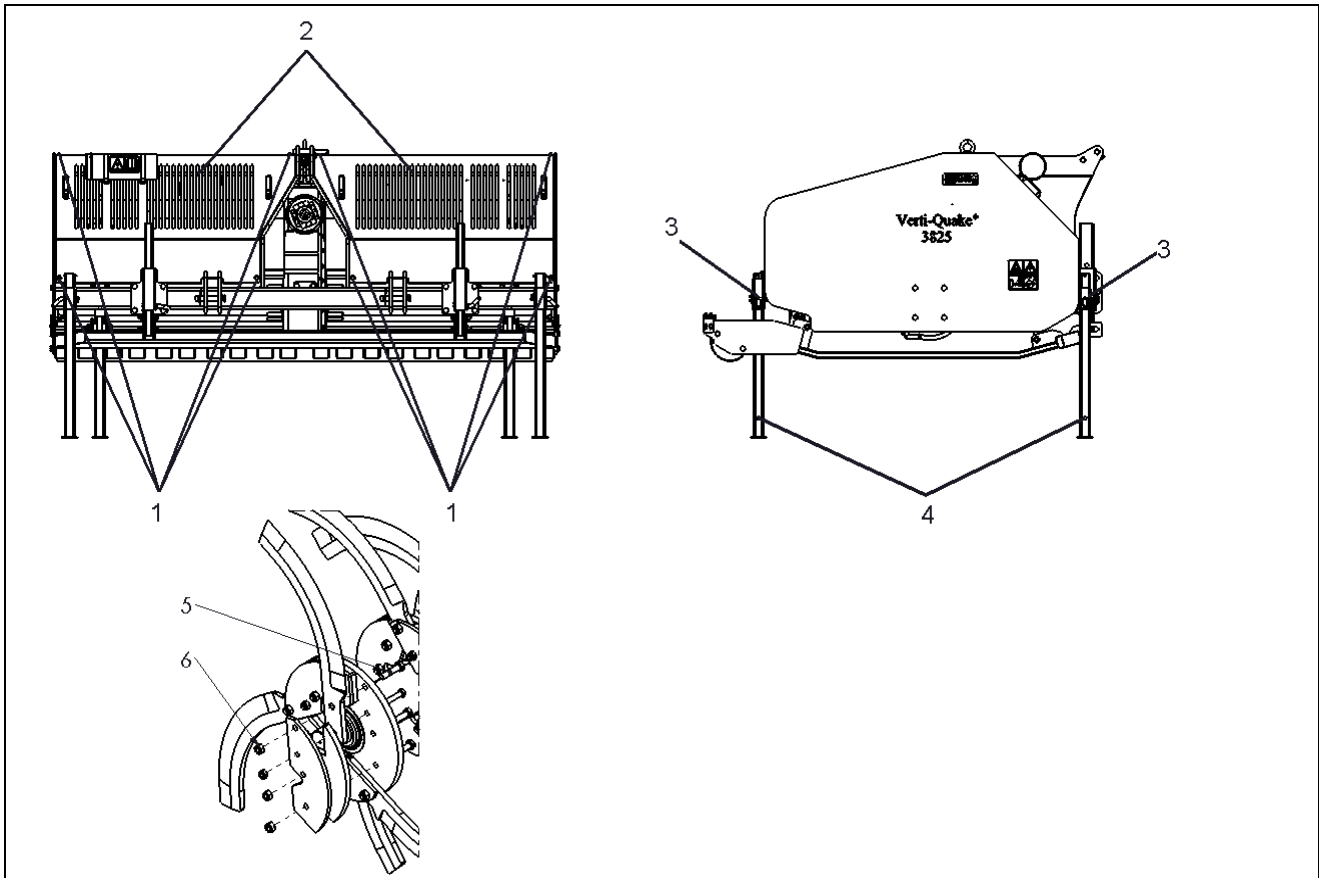

Fig. 7
1. Remove the access covers (2) by unscrewing the bolts (1) and taking off the covers. (fig. 7)
7. Lower the height-adjustable legs (4) of the machine and secure them with the handles (3).
8. Carefully lower the machine on the height-adjustable legs (4).
11. Replace the access covers (2) and secure by tightening the bolts (1). (fig. 7)